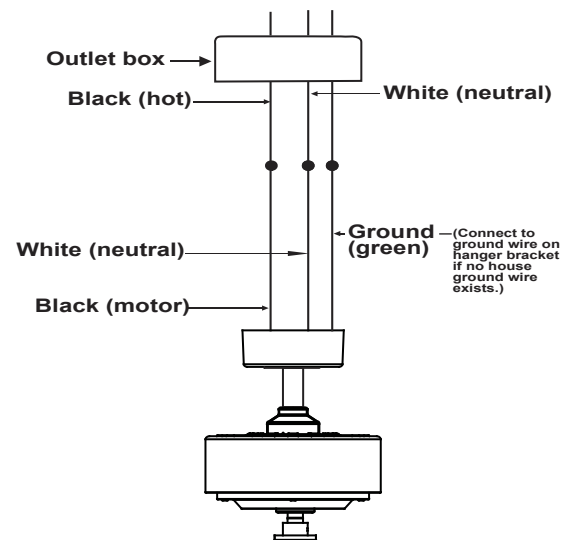

Fig. 13
**Step 1.** Connect the fan supply wire (black) to the black household supply wire. (Fig. 13)